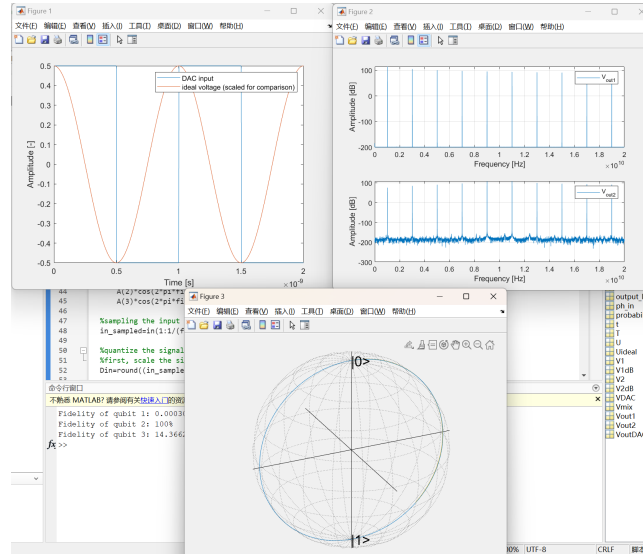

Figure 10: $f_{sample} = 2e9, dt = 2e - 12$
1. $f_{sample} = 2e9, dt = 2e - 12$: Figure 10 shows the result of the simulation. The fidelity of Q1, Q2 and Q3 are $\simeq 0\%$, 100% and 14.3662% . The fidelity of Q3 degraded hugely.